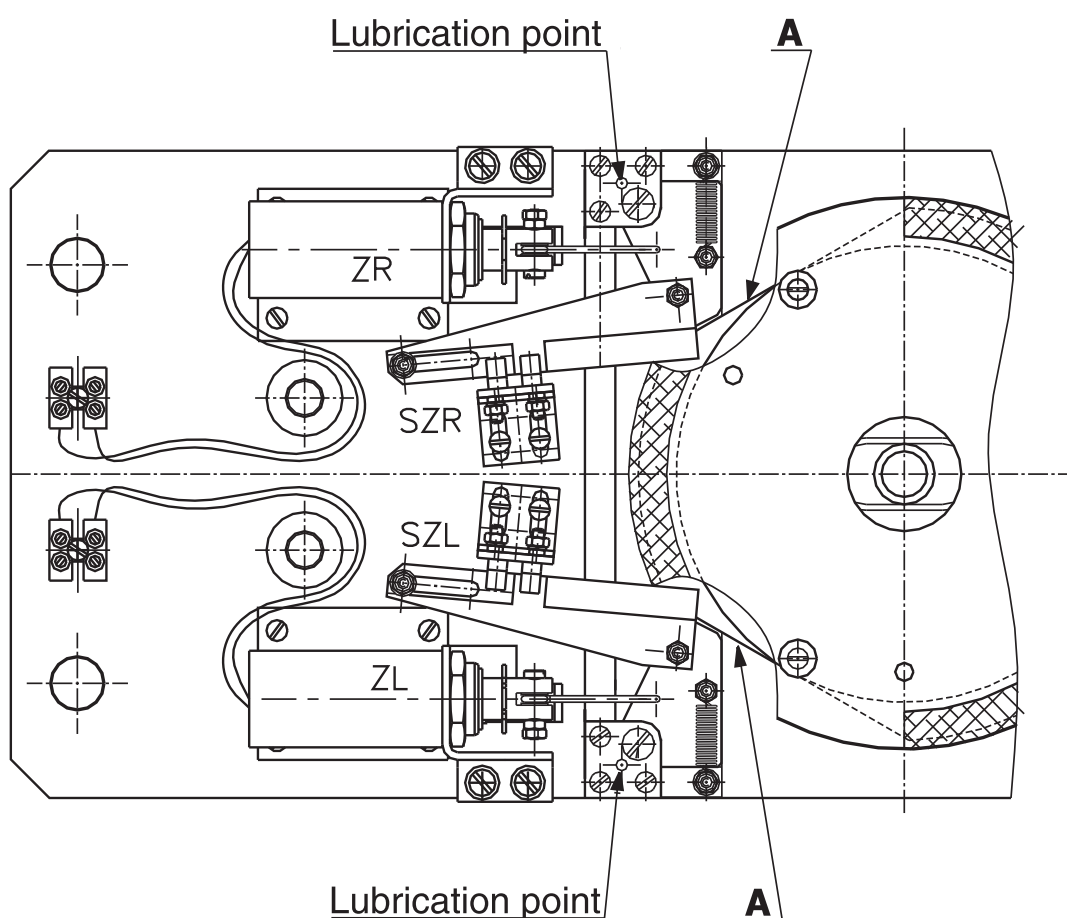

Fig. 14. Above view of the operating mechanism installed inside the top channel (13) with lubrication points
- a) the stoppers and contact surfaces A of the operating mechanism — 2 or 3 oil drops into each lubrication point (shown in Fig. 14);